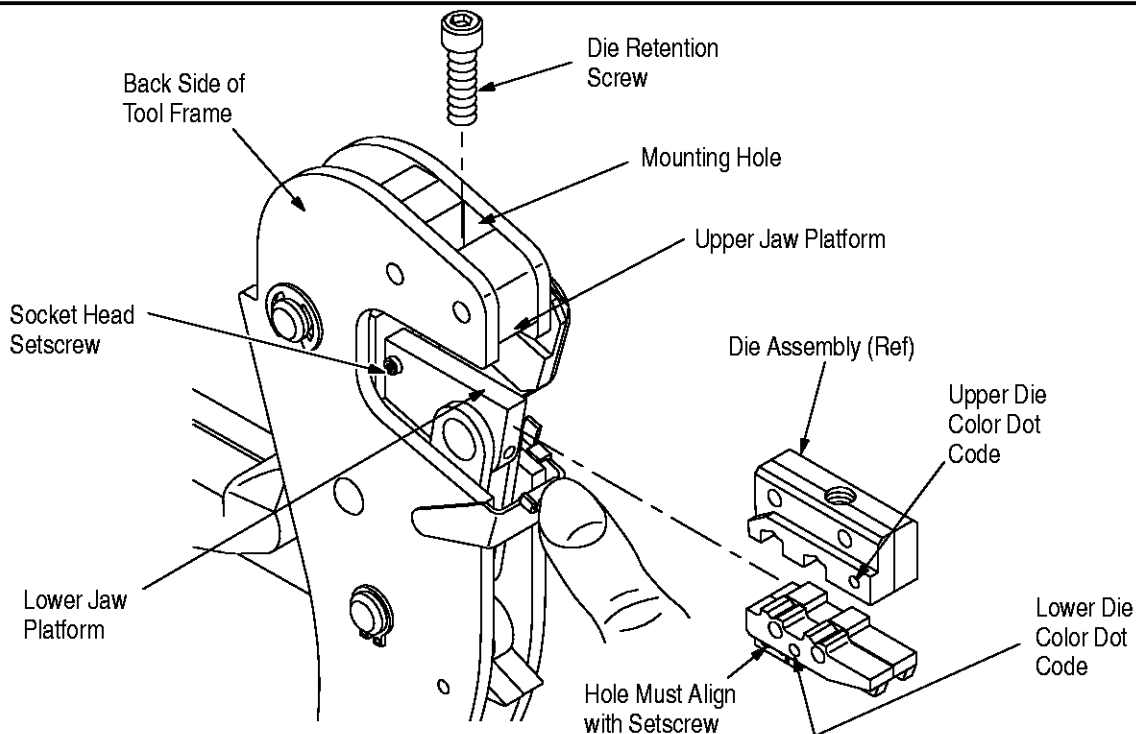

Figure 2
2. Slide lower die onto lower jaw platform of tool frame. Make sure that the hole on the side of the lower die aligns with the socket head setscrew on the platform. See Figure 2.
2. Slide upper die onto upper jaw platform of tool frame. Make sure the color dot code on upper die is on the same side as the color dot code on lower die. See Figure 2.